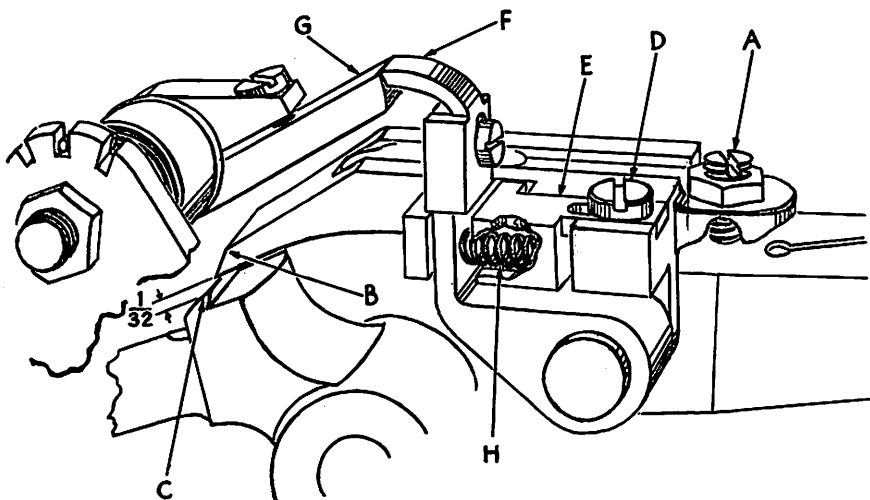

Fig. 10
With set screw (A, Fig. 10) released from position, adjust the point of pawl (B) above the point of ratchet